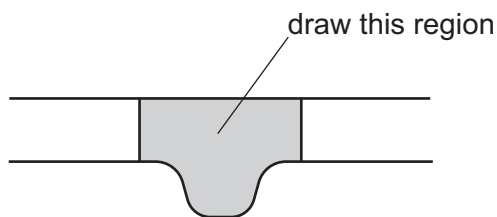

Fig. 2.1
- (a) (i) Draw a large plan diagram of the region of the leaf on **M1** indicated by the shaded area in Fig. 2.1. Use a sharp pencil.